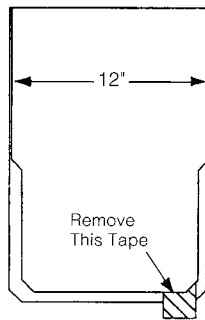

Figure 19-18: Shingle Ridge®.
5. Before nailing, be sure to remove the protective tape from the sealant between the cap's two layers (Figure 19-18).